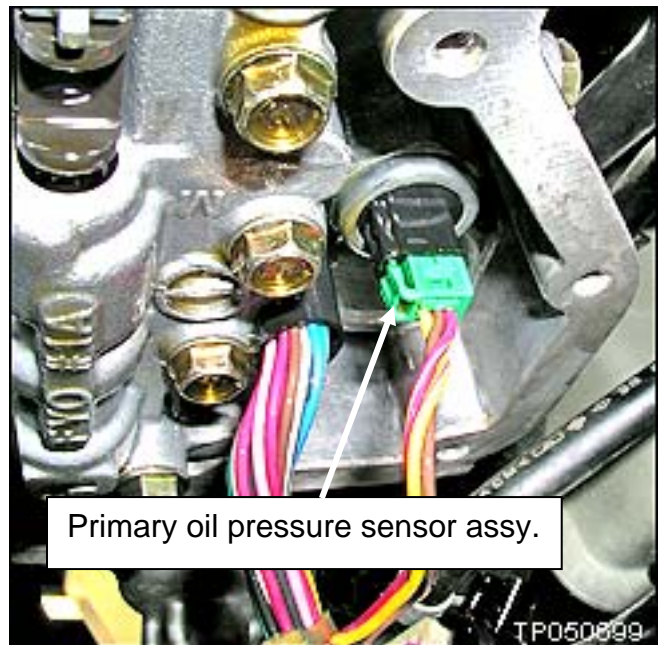

Figure 8
18. Reconnect the harness to the primary oil pressure sensor (see step 5, Figure 8).